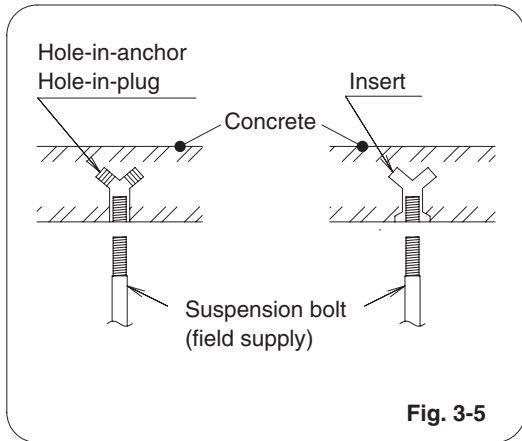

Fig. 3-5
- (1) When placing the unit inside the ceiling, determine the pitch of the suspension bolts referring to the dimensional data given previously. Tubing must be laid and connected inside the ceiling when suspending the unit. If the ceiling is already constructed, lay the tubing into position for connection to the unit before placing the unit inside the ceiling.
- (2) Screw in the suspension bolts allowing them to protrude from the ceiling as shown in Fig. 3-5. (Cut the ceiling material, if necessary.)